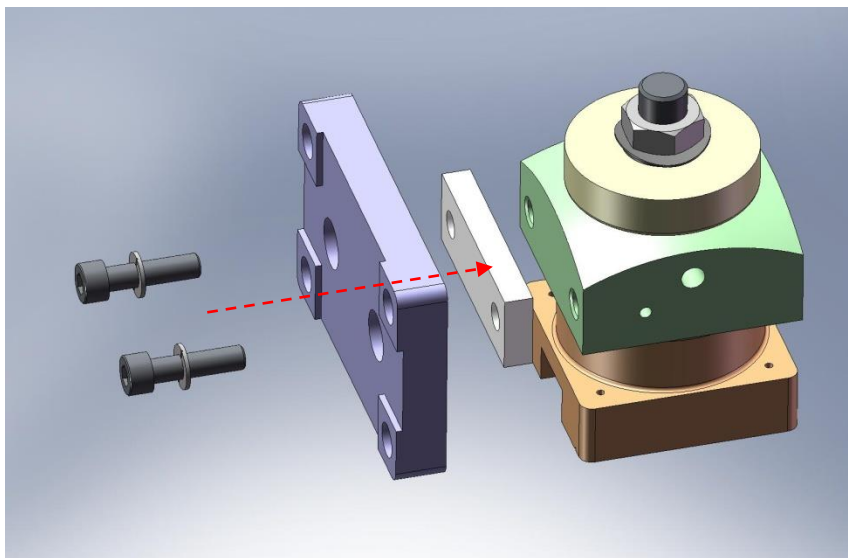

Figure 4.41. Add Standoff and Base Plate, to complete Horizontal Position Sensor Assembly (accept for sensor).
- For (3) **Horizontal Position Sensor Assemblies**, place **Horizontal Sensor Head Standoff** (D071170) between **Sensor Head Mount** and **Sensor Head Base Plate** (D071164), as shown in Figure 4.41. Add screws and torque to final spec.